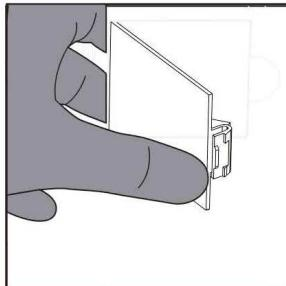

Fig. 9
- remove the access panel (fig. 9)